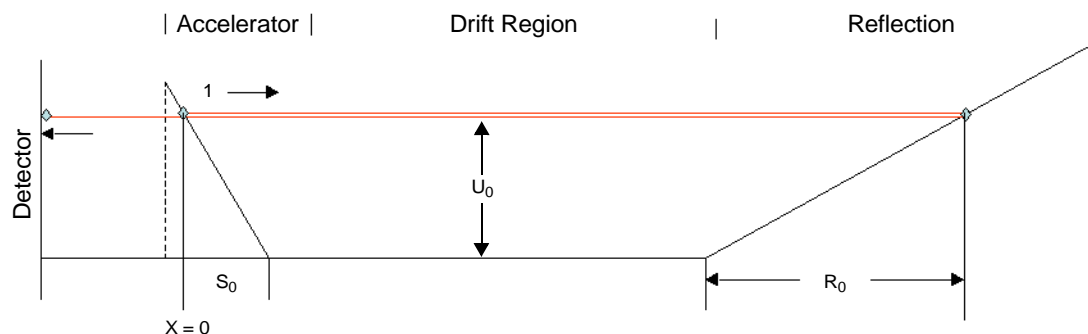

Figure 3-7 Reference Trajectory
- All ions are accelerated by the same electrical field in the spectrometer. When entering the drift region, the ions have a kinetic energy equal to the electrical potential applied to the active section of the accelerator (S_0 in Figure 3-7).